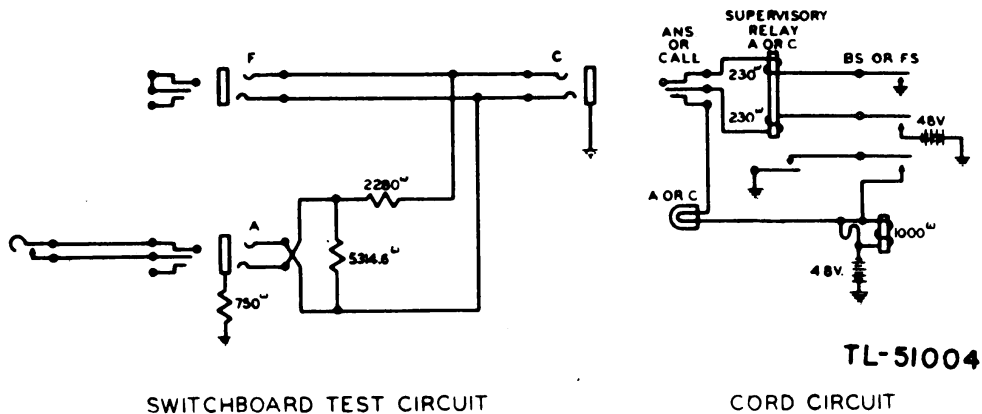

Figure 51. Test of supervisory relay, Switchboard BD-110-(), functional diagram.
(6) OPERATE AND RELEASE TEST OF SUPERVISORY RELAY (fig. 51). Connect the plug of the cord under test to the C jack, and connect the key-ended cord to the A jack. The supervisory lamp associated with the cord under test lights and remains lighted until the key on the end of the cord is operated. The operation of the key applies an operate test current to the supervisory relay. Release the key. This applies the release test current to the supervisory relay. Apply a soak current to the supervisory relay by momentarily connecting a test plug with the tip and ring shorted to the F jack. Continued lighting of the lamp after the operation of the key indicates a failure of the supervisory relay to operate on the operate test value. Failure of the supervisory lamp to relight upon release of the key or upon removal of the test plug indicates failure of the supervisory relay to meet its release test value.